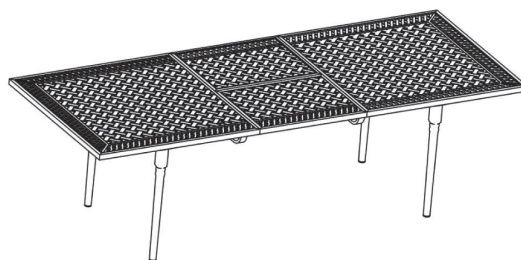

Figure 2
Step 2. Verify all bolts are securely tightened before use and turn your table right side up (See Figure 2). Your table is now ready to use.